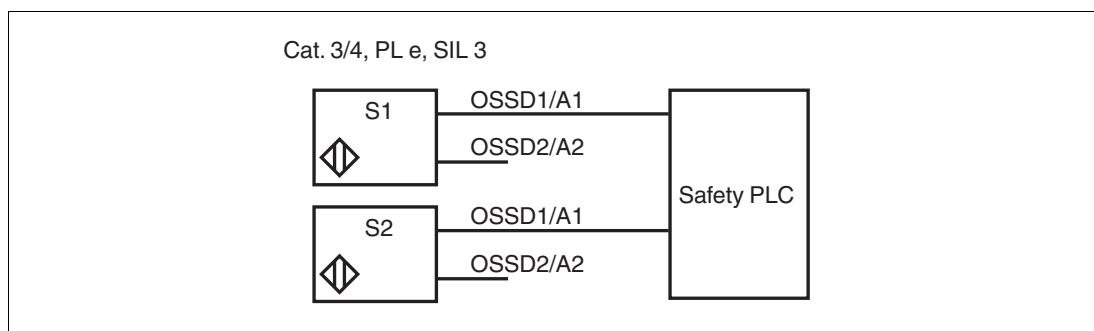

Figure 4.3 Example of a safety loop via the OSSD1 outputs of 2 sensors
- If you are using the sensor in a safety loop for category 3/4, PL e, SIL 3, connect 2 sensors via their OSSD1 outputs, see Figure 4.3. The OSSD2 output is not connected in this application.